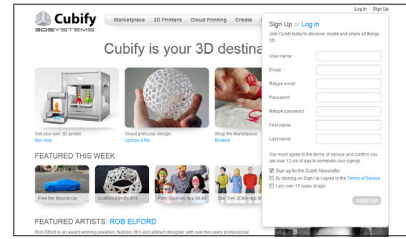

Fig. 13
- To create an account, type in Cubify.com in your web browser and click on Sign Up to open the registration form. If you already have an account, click on Log In and provide your User ID and Password. (Fig. 13)